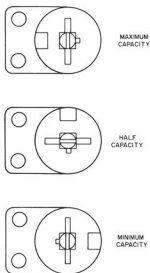

Figure 4-4. Trimmer Capacitor Settings
e. Set C113, C117, and C120 to half capacity. See figure 4-4.